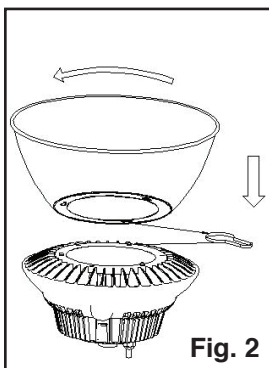

Fig. 2
2. Match the keyholes on reflector to the raised screws then rotate reflector into position, Please refer to Figure 2.